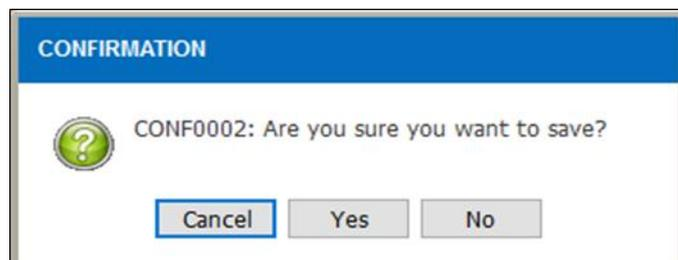

Figure 3.4-8 Save Record Alert Message
- After saving record, alert message will be displayed as per Figure 3.4-8 & Figure 3.4-9